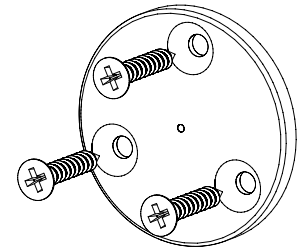

Fig. 2
2) Carefully flip the mount over to reveal the base of the ground board. If your mount has an existing threaded insert through the hole in the center of the ground board, carefully unscrew it and put it aside, as you won't need it again. Insert the supplied Az pulley bolt, passing it through the ground board and through the base of the rocker box. The new bolt was machined with a diameter to normally pass through the hole in the ground board, which is made of particle board. Be careful to avoid damaging the particle board or laminate coating when passing the new bolt through if the fit seems overly tight. Instead, using a short piece of emery paper, sand out the hole to enlarge it just enough, but no more, so that the bolt passes through. If the hole in the base of the rocker box is fitted with an existing metal sleeve/bush, then retain it. The new pivot bolt is designed to pass through it. Fasten circular base plate of bolt, as seen in Fig 2., to base of rocker using 3 x supplied self-tapping wood screws. To make it easier to insert the screws, using the holes in the base plate as a template, 'spot' the wood with a small diameter spot drill or 2mm (5/64") diameter drill bit. Once the base plate of the bolt is fastened, flip the mount over the 'right way' up.